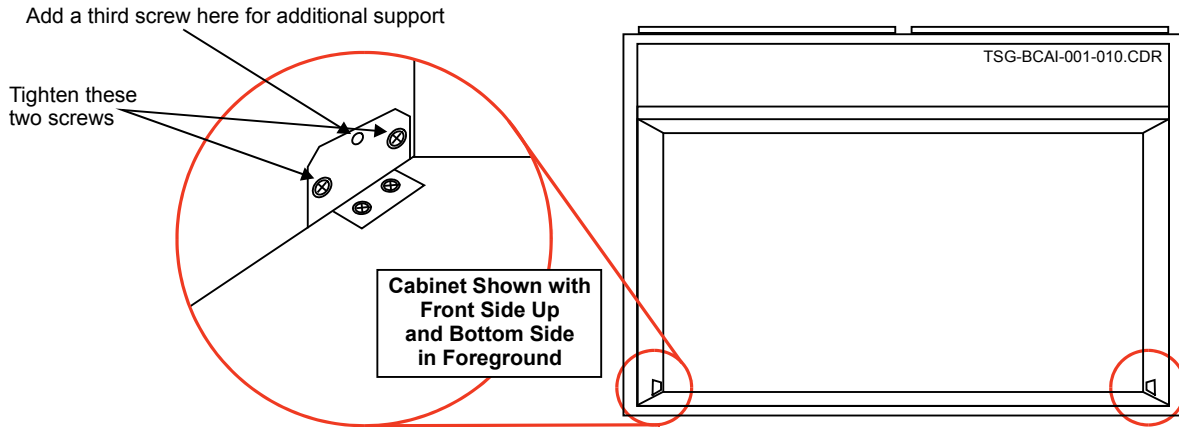

Figure 11 — Secure the Bottom Clips on the Bottom of the Cabinet
- (9) Referring to Figure 11, next close the cabinet’s doors and then reposition the cabinet so that it is lying with the back of the cabinet faced downward. Then secure the bottom clips on the bottom of the cabinet in the same way as mentioned in previous steps.